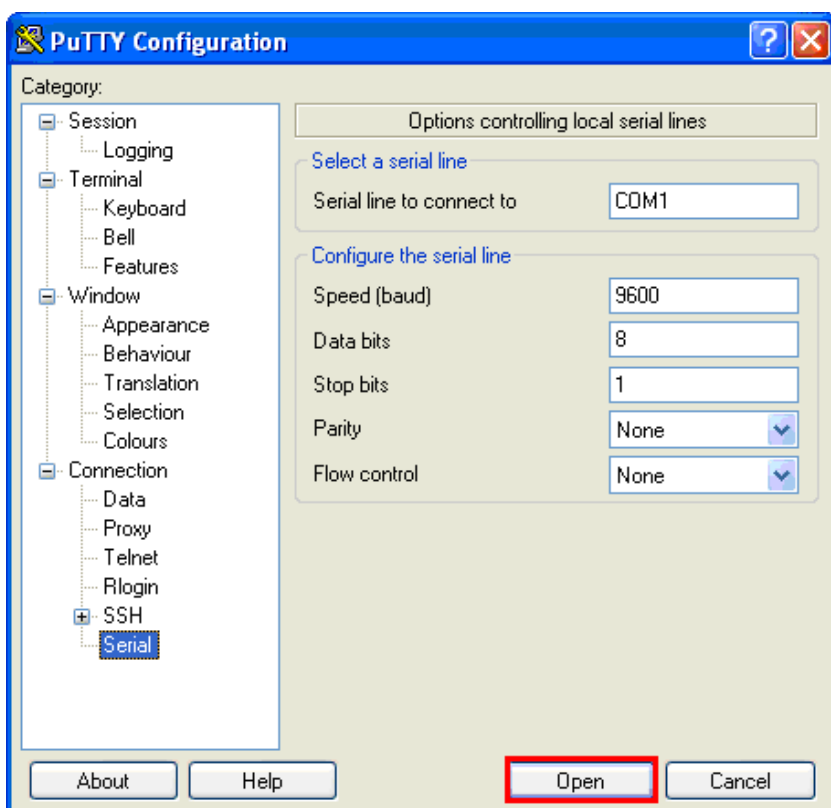

Figure 2-4: PuTTY serial configuration
- Enter the serial configuration parameters of the terminal emulation program shown in Figure 2-4.